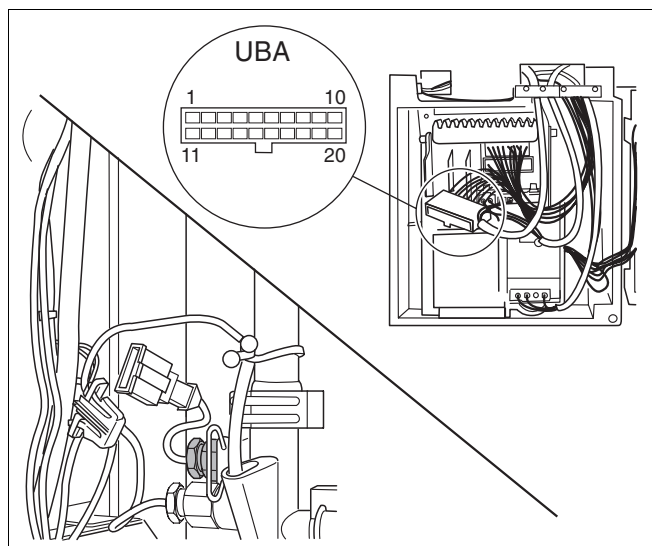

Fig. 72 600 - 11S / 19S / 24S / 24C:
- Use a continuity tester to check the cable between the plug-in connection and the 20-pin plug in the UBA. The test should be carried out on connections 05-20 and 18-20 (fig. 72).